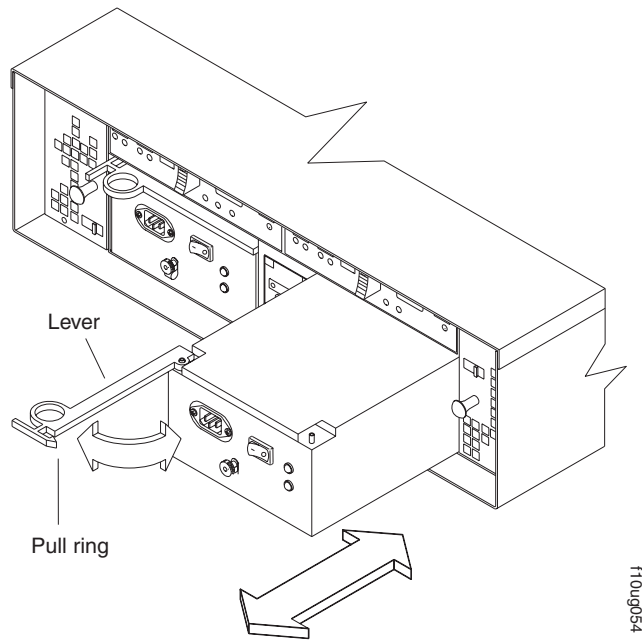

Figure 19. Replacing a power supply
1. Slide one power supply into the storage server. Be sure to replace the power supplies so that the lever on each power supply opens toward the interior of the storage server, as shown in Figure 19 on page 31.
Attention: Be sure that the lever is pulled straight out as you slide the power supply into the storage server, as shown in Figure 19 on page 31.